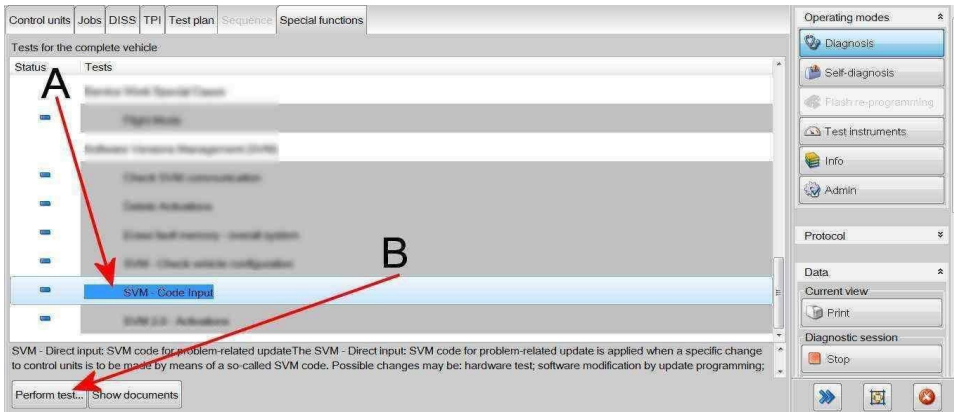

Figure 3
- Because of the highest transmission stability you MUST use the diagnosis interface VAS 6154 (WiFi diagnostic tool) ONLY in USB operation or the cable-connected VAS 5055 for the reprogramming (updating) of control units. If these units are not available, the diagnosis interface VAS 5054 (A) can also be used in USB mode
- Referring to Figure 3 - Within the Special functions tab select SVM - Code input (A) then select Perform test (B)